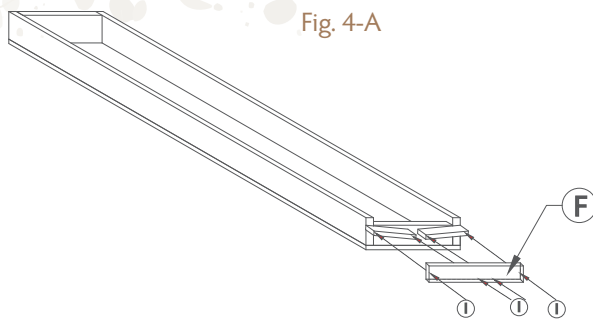

Fig. 4-A
6. Attach board "F" to boards "E" as shown in Fig. 4-A